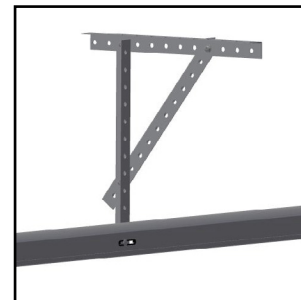

FIGURE 6.3
**6.1.B** The rear track hangers (Figure 6.3) should hold the horizontal track level and square to the door.